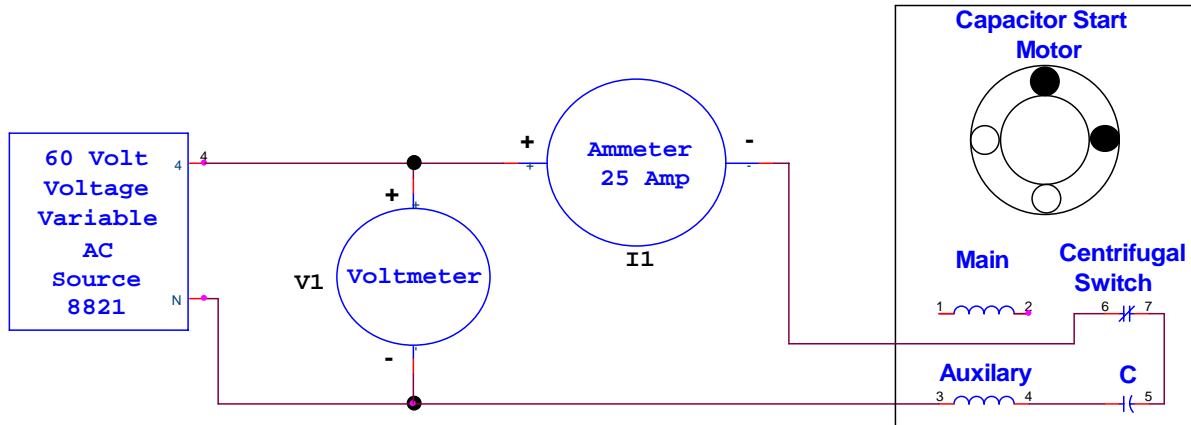

Figure 3: Auxiliary winding starting current connection diagram
3. a. Disconnect the leads from the main winding and connect them to the auxiliary winding and capacitor, as shown in Fig. 3.